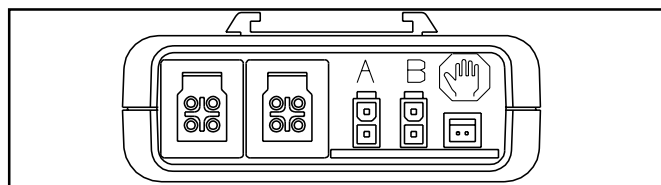
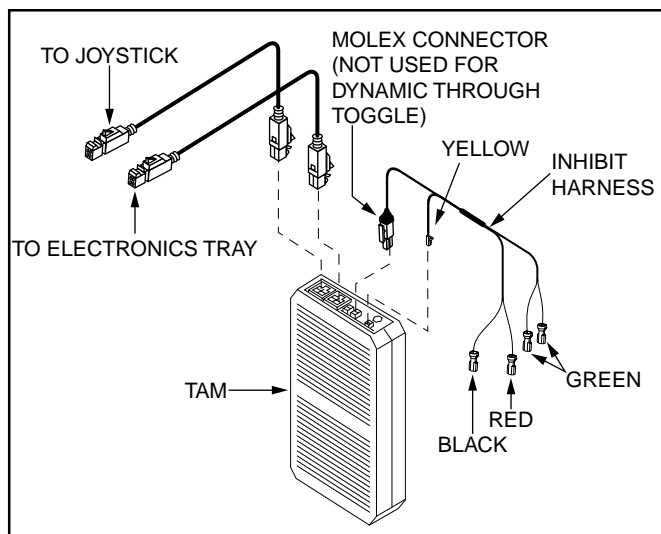

Figure 4.46. Side View of TAM Module
Figure 4.47. TAM with Harnesses
- If the multimeter is reading less than 15 volts DC, disconnect the molex connector in port "A" of the TAM module. See figure 4.46. Set the multimeter to measure resistance and check for continuity from the molex connector to the opposite end of the harness connectors leading to the actuator (these will be red and black pigtail connectors). The reading should indicate less than one ohm of resistance. See figure 4.47.